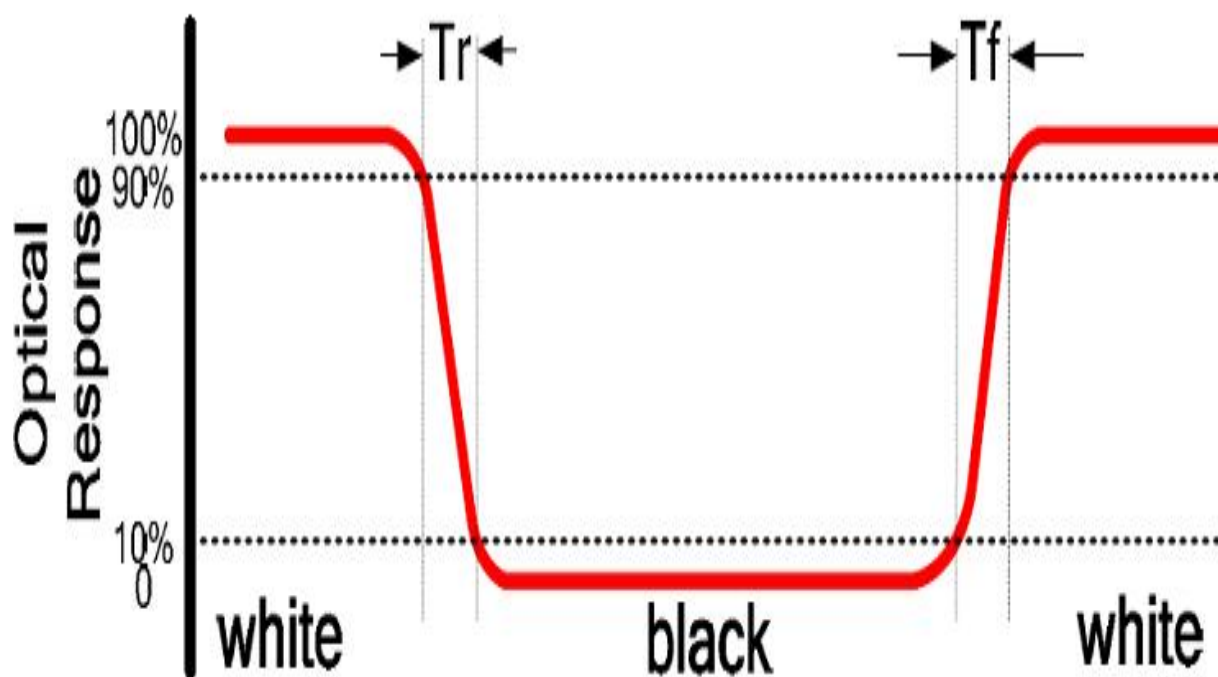

FIG2. Measuring method for Contrast ratio, surface luminance, Luminance
Note2.contrast Ratio(CR) is defined mathematically by the following formula ,For more information see FIG2.
value of contrast ratio is 2. The angles are determined for the horizontal or x axis and the vertical or y axis with respect to the z axis which is normal to the LCD surface. For more information see FIG3 Note5. Surface luminance is the LCD surface luminance with all white pixels, For more information see FIG2.